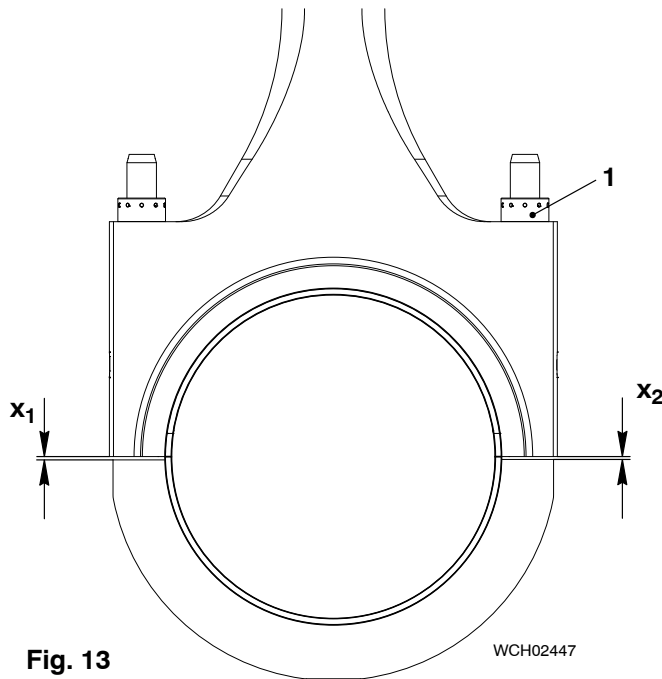

Fig. 13
- 10) Put the round nuts (1, Fig. 13) on the elastic studs.
- 11) Tighten the round nuts (1) equally with a round bar.